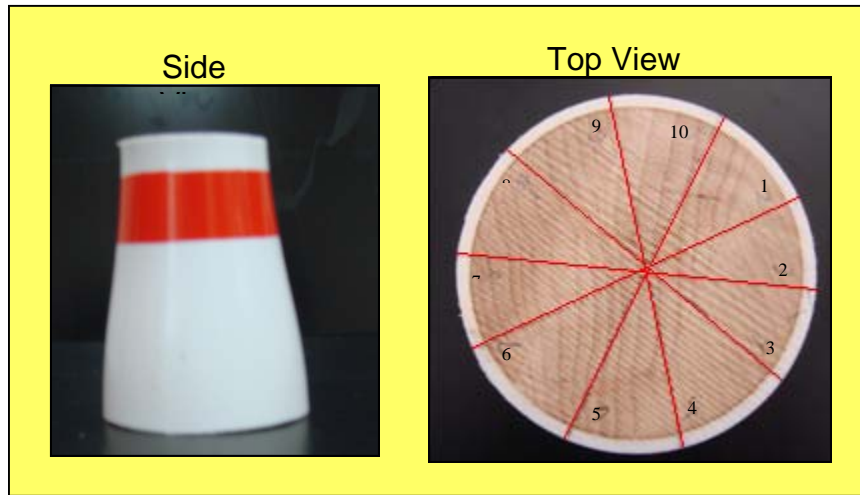

Figure 4 - Side and top view of the neck segment of the bowling pin. The top view shows the 10 divisions drawn on the segment.
7. Set the neck segment of the bowling pin on a work surface and draw 10 “pie slices” on the top of the segment and number each section 1-10 with the pencil and straight edge as seen in figure 4.